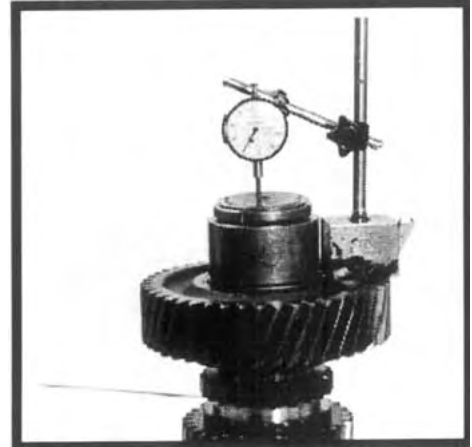

Figure 6.14
- Install a dial indicator as depicted in Figure 6.14. Lift upward on the gear assembly and note the gear end float on the dial indicator. If the end float is not within specification (.000 to .002 inch), it will be necessary to disassemble the shaft by performing Steps 2 and 3 under "INTERMEDIATE SHAFT DISASSEMBLY" in Section 4. Measure the thickness of the original spacer ring and select a new ring to provide end float within the specification. See item 8 in Section P.3 or P.4 in the parts manual for a list of available spacer rings.